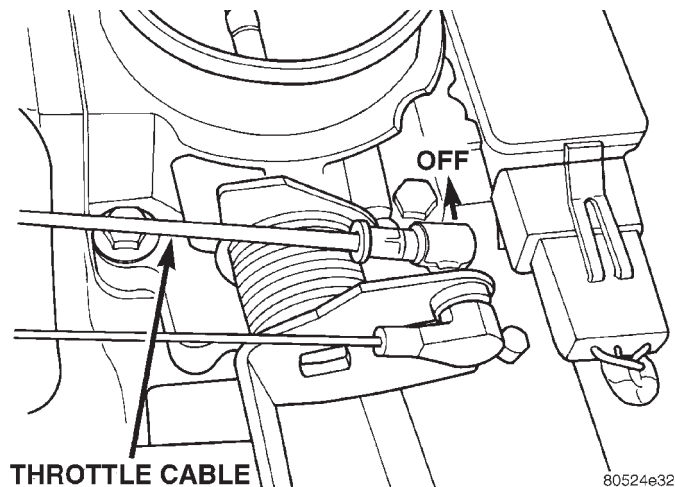

Fig. 40 Throttle Cable at Throttle Body—Typical
(5) Remove throttle cable ball end socket at throttle body linkage (snaps off) (Fig. 40).
(6) Remove throttle cable from throttle body mounting bracket by compressing retainer tabs and pushing cable through hole in bracket.
(7) Remove throttle cable from vehicle.